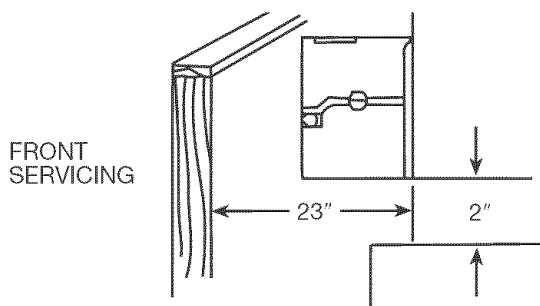
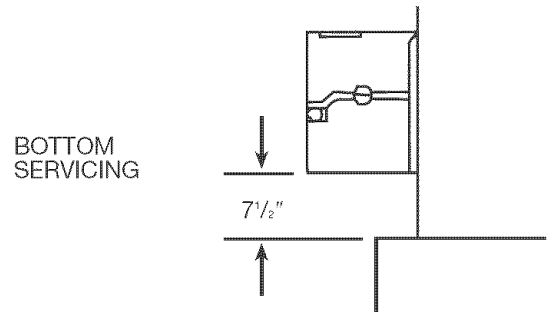
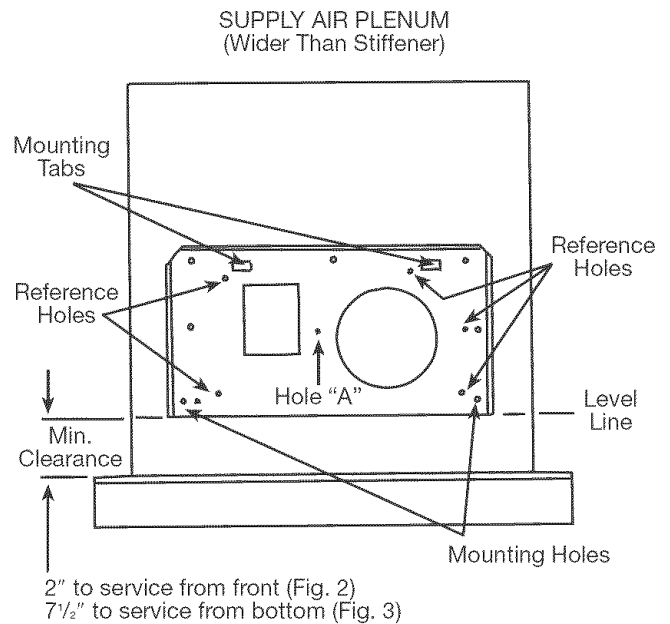
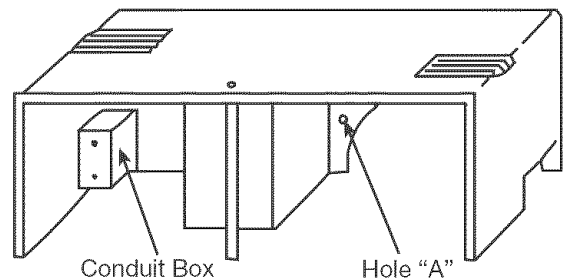

Fig. 2
Fig. 3
Fig. 7
Fig. 10
NOTE: The easiest and quickest way to service the humidifier will be from the front. To service from the front you will need 23" of space in front of the plenum and only 2" of space below the humidifier (Fig. 2).
If you do not have 23" of space in front, the humidifier must be serviced from the bottom. Servicing from the bottom will require 7½" clearance (Fig. 3).
1. The Plenum Stiffener is mounted on the supply air plenum. Mark a level line at least 2" above the top of the furnace on the selected surface, if front service method (Fig. 2) is used. If the humidifier is to be serviced from the bottom (Fig. 3), mark a level line at least 7½" above the top of the furnace. Hold stiffener against the plenum with the bottom edge on a level line and bent edge flanges towards you. Using a pencil, mark the location of all holes except hole "A" on plenum (Fig. 7).
8. Hang the upper case assembly on plenum stiffener mounting tabs (Fig. 7). Tabs may have to be bent out slightly to fit into the slots in the back of the upper case assembly. Secure the upper case to the stiffener by pressing the capped fastener (No. 47, Page 16) through the back of the humidifier and into hole "A" (Fig. 10).